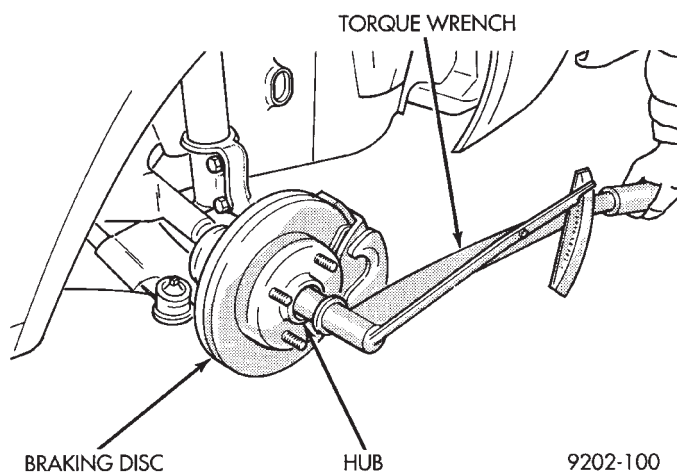

Fig. 76 Torquing Front Hub Nut
- (13) With vehicle brakes applied to keep stub axle from turning, tighten hub nut to a torque of 203 N·m (150 ft. lbs.) of torque (Fig. 76).